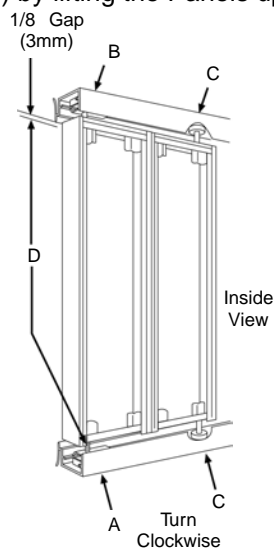

Figure 6
NOTE: If you want to change the opening direction of the door, switch location of B and C at the top of the door and switch location of A and C at the bottom of the door (See Figure 6).
- A. Insert the Bottom Threaded Pivot Pin (#14) into lower Pivot Block Clamp (#8) hole (See Figure 6-A).
- B. Pull upper Top Spring Pivot Pin (#13) down and engage in Pivot Block Clamp (#8) hole (See Figure 6-B).
- C. Pull remaining pins down at top and up on the bottom and engage in track (See Figure 6-C).
- D. Turn Bottom Threaded Pivot Pin (#14) clockwise until top of door is 1/8 (3mm) below Top Track (#2) (See Figure 6-A).